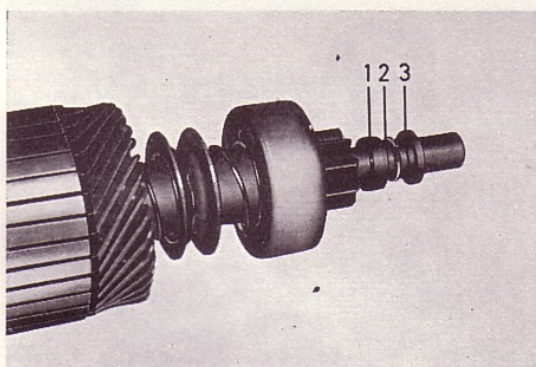

Fig. 44. Pinion, circlip and nut
6. Remove the stop washers on the rotor shaft. The thin washers (axial adjusting washers) and ring (3, Fig. 44), are removed by pulling straight off the shaft. The thick ring (1, Fig. 44), is first knocked in 5–8 mm (about 1/4") on the shaft so that the circlip (2, Fig. 44), can be removed, after which the washer is pulled off the shaft.